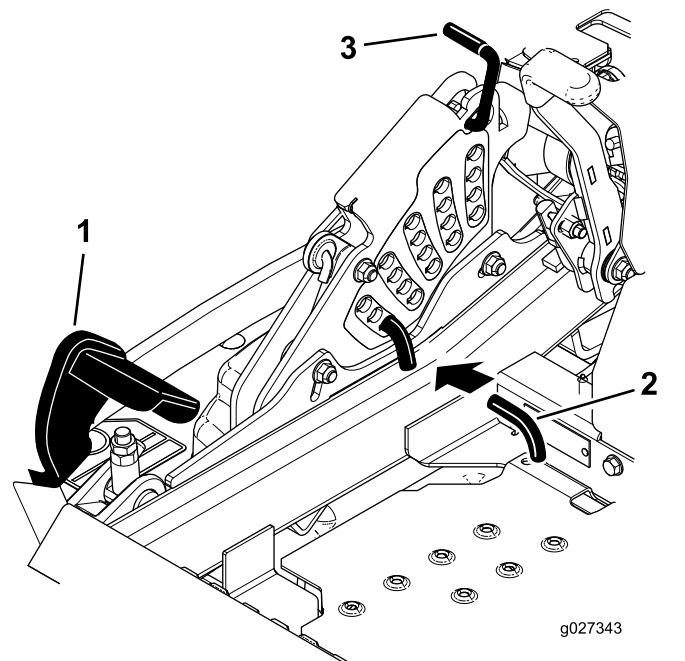

Figure 25
2. Push on the deck lift pedal with your foot and raise the mower deck to the transport position (also the 140 mm (5-1/2 inch) cutting-height position); refer to Figure 25.
3. To adjust, rotate the pin 90 degrees and remove the pin from the height-of-cut bracket (Figure 25).
4. Select a hole in the height-of-cut bracket corresponding to the height-of-cut desired, and insert the pin (Figure 25).